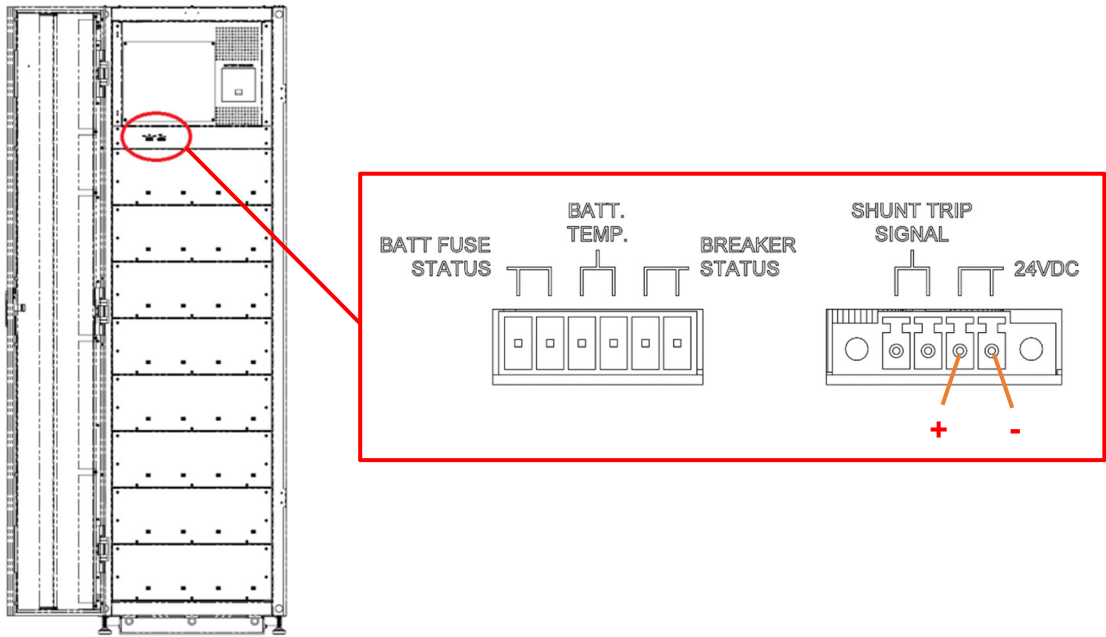

Figure 21: function contact of battery cabinet
- Please refer to **Table 3** and **Figure 21** for the function contact of the Battery Cabinet.